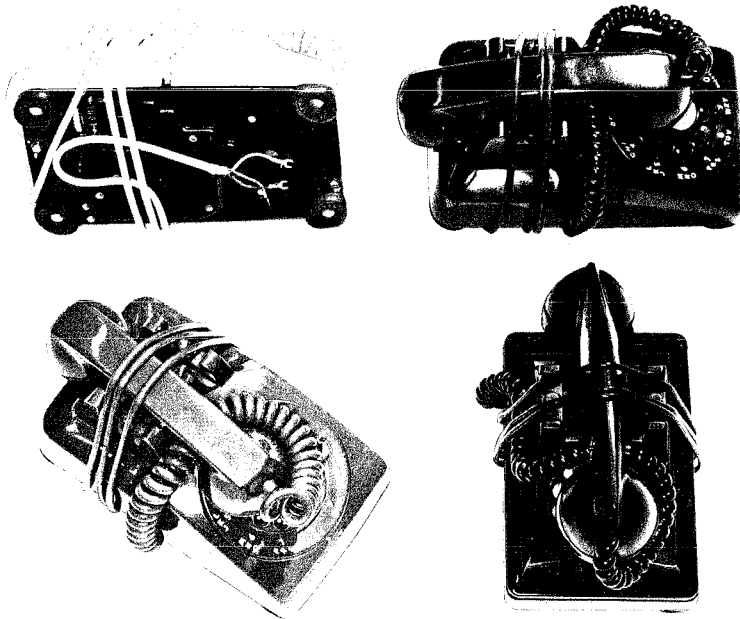
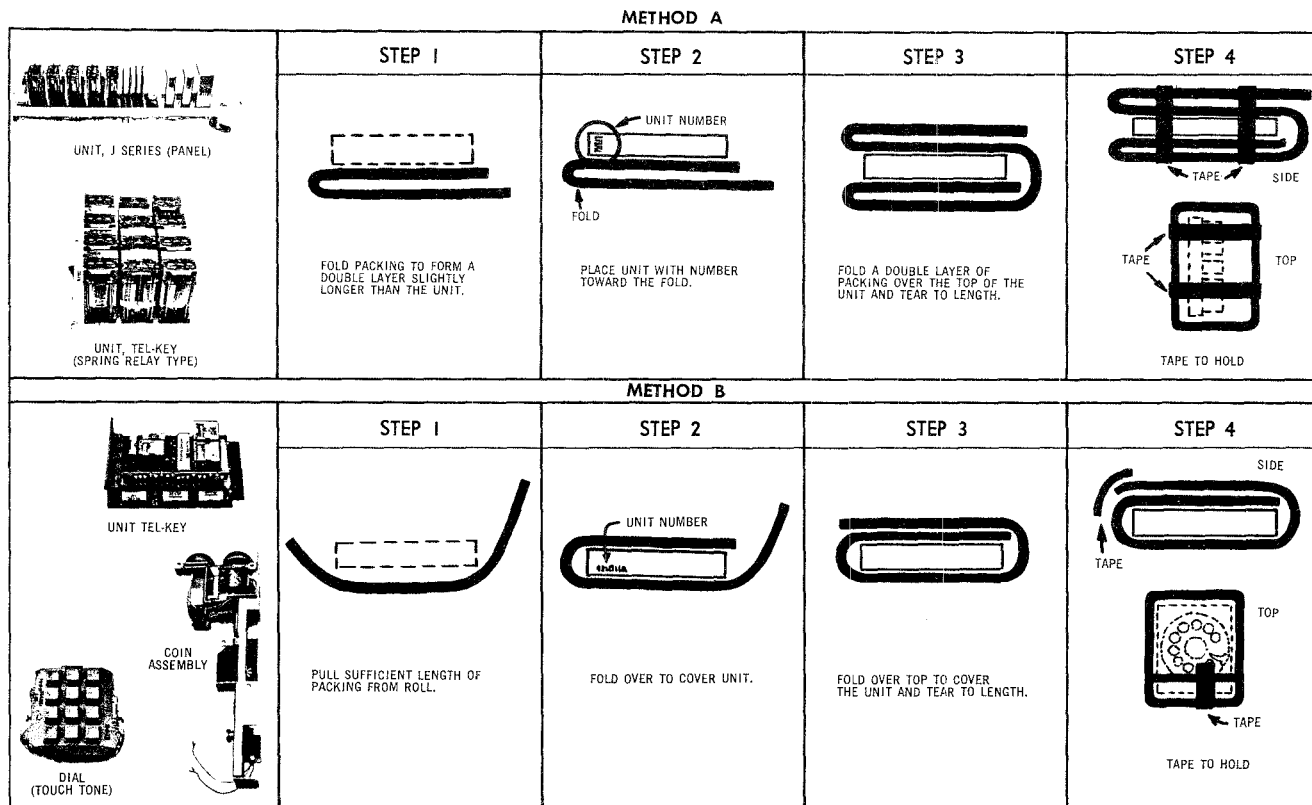

Fig. 1 — Desk Set Prepared for Packing
Fig. 6 — Procedures to be Used When Packing with Packing Resistant Shock
- (3) **Distributing Frame Wire** - Wire in lengths of 10 feet or less, shall be baled or bagged, all types combined, and returned as junk. A scrap wire paper bag is obtainable on requisition for this purpose.
- (4) **Drop Wire** -
- (5) **Inside Wiring Cable and Connector Cables** - These cables should be tagged and coiled as to size and length.
- (6) **Installer's and B Repairman's Cases** - The combination locks on these cases shall be reset at "000" before returning.
- (7) **Keys, Handsets, Subsets, Speakerphones** - Components and similar apparatus items shall be returned in individual No. 1 Polyethylene Bags to protect the finish. If better protection is required, a standard telephone carton shall also be used.
- (8) **Key Telephone Units** - When practical, the units shall be returned, assembled in the 105 Apparatus Box or Equipment Cabinet in which they were installed. When the units are loose, maximum protection shall be given by the use of Packing Kits or *if the kits are unavailable, by cushioning with Packing Resistant Shock and crumpled paper in suitable cartons or containers. See Fig. 6.*
- (9) **PBX Battery Units and Used Storage Batteries** - The acid solution shall not be emptied from these batteries before shipping. Recovered batteries shall be returned in special battery cases. Where possible, storage batteries may be disposed of locally; however, this shall be done by Supplies personnel only.
- (10) **Radiotelephone Equipment** - This equipment shall be carefully packed, using Packing Resistant Shock. See Fig. 6.
- (11) **Sharp Tools** - and other hazardous items shall be protected with guards or other suitable protection.
- (12) **Small Parts** - Dials, ringers, transmitter or receiver units, and similar replacement parts, shall, when possible, be returned in the carton in which the new parts were received.
- (13) **Switchboards, Teletypewriters and Teletypewriter Tables** - Whenever possible this equipment should be packed in the appropriate packing case which is available upon request, before it is removed from the customer's premises. However, if the carter (either company operated or contractor) is able to supply adequate protection (quilted blankets, etc.) it will not be necessary to pack switchboards (other than the 507 Type). The ribbon and inking devices shall be removed from teletypewriters before packing.
- (14) **Telephone Sets** - are to be secured as shown in Fig. 1 to 5.